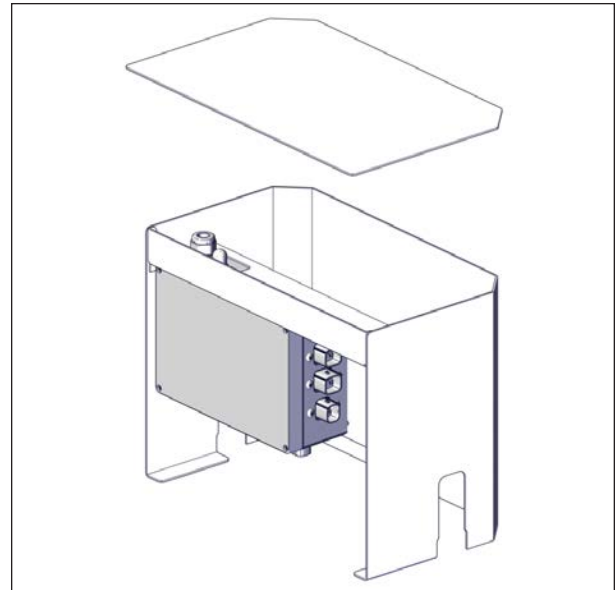
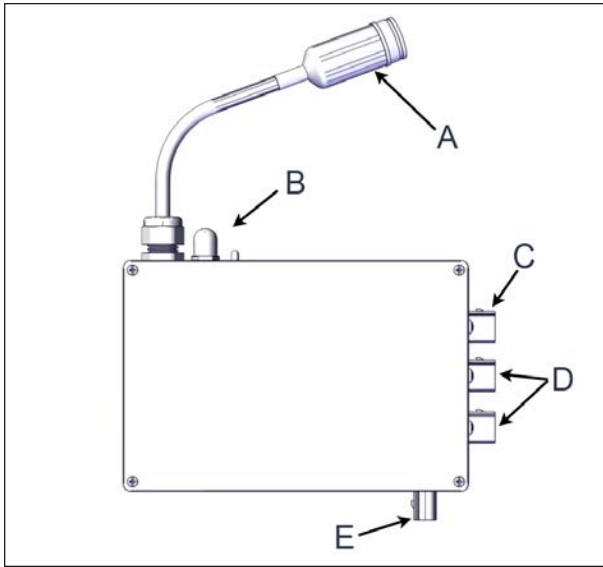

FIGURE 95: CONTROL BOX HOUSING
FIGURE 96: BATTERY/SOLAR PANEL CONTROL BOX
1. Locate the control box housing and control box, see Figure 95 and Figure 96.
3. Unpack the key switch and plug the harness into the control box (item C, Figure 96).
4. Unpack the optional solar panel kit from the boxes and connect the solar panel harness (item E, Figure 96).